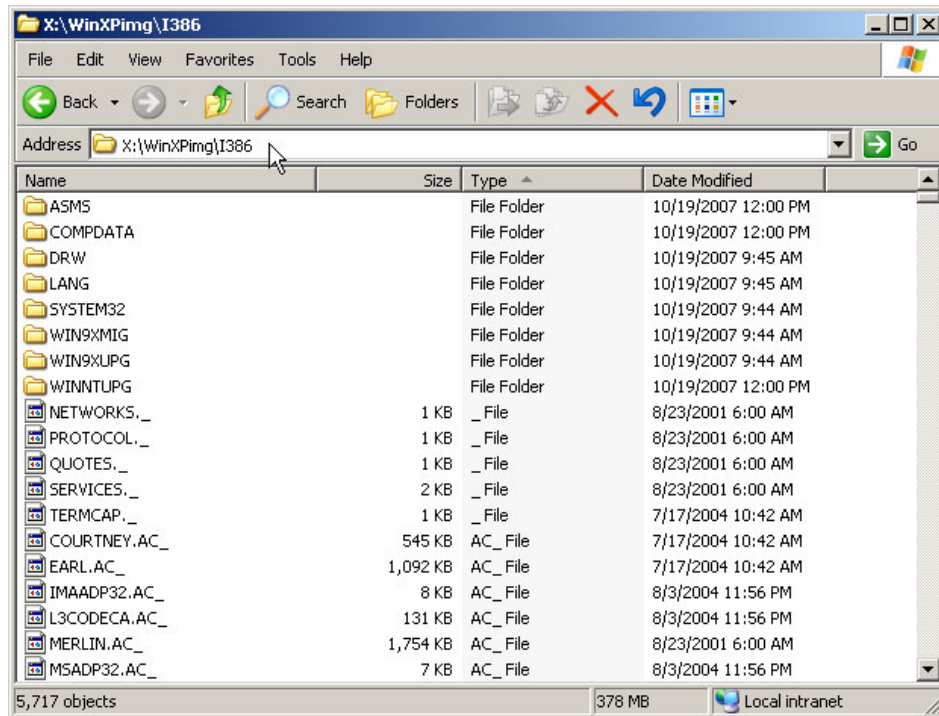

Figure 2-1 Files successfully copied from CD-ROM to target destination
2. Verify all files and folders are created in target folder as shown in Figure 2-1 on page 20.